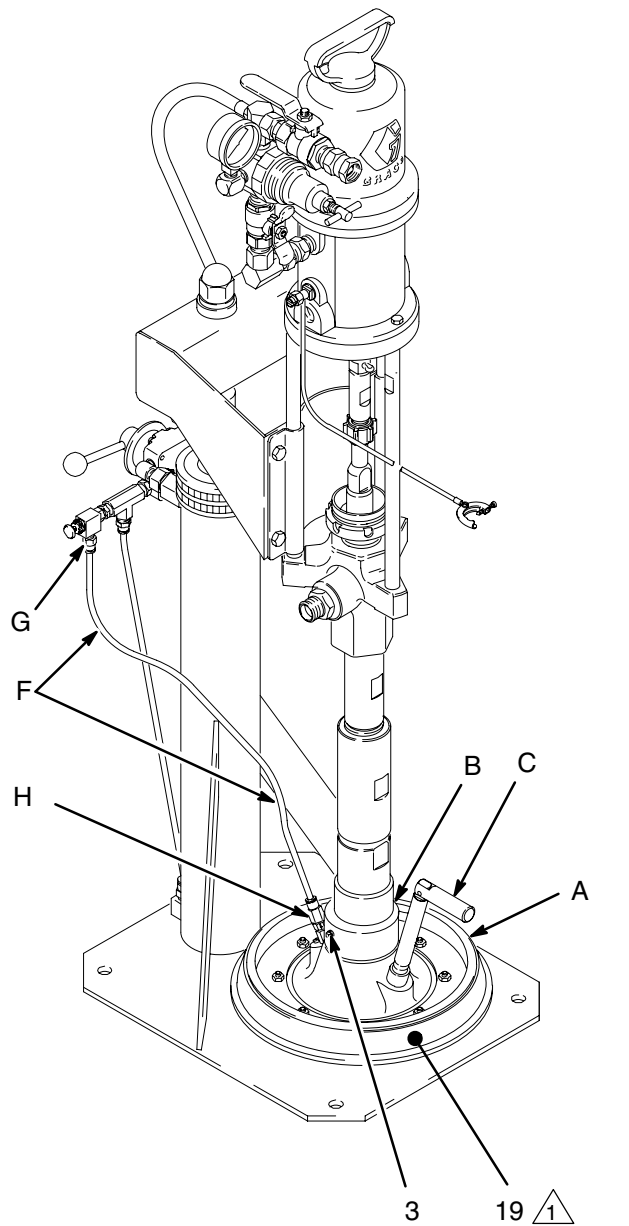

Fig. 1
Reference letters and numbers in the text refer to Figs. 1–4 and the Parts Drawings on pages 14–15.
2. Install the wiper plate (A) onto the pump intake (B), with the wiper plate vent handle (C) facing the front of the ram. Secure by tightening the setscrew (3). See Fig. 1.